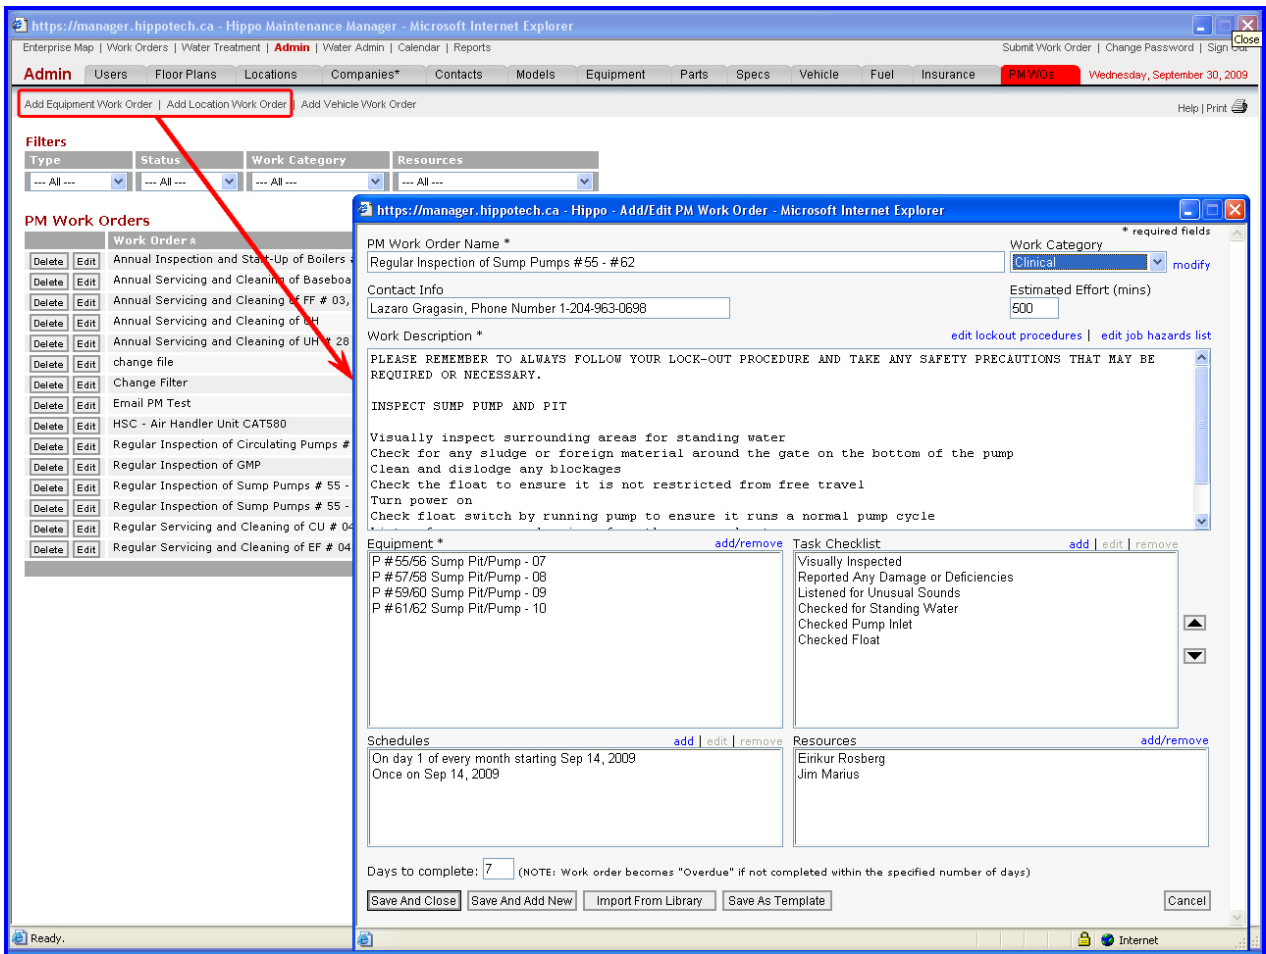

Figure 38: Adding Work Order
2. Click **Add Equipment Work Order** or **Add Location Work Order** sub-menu item to display the Add PM Work Order window (See Figure 38).